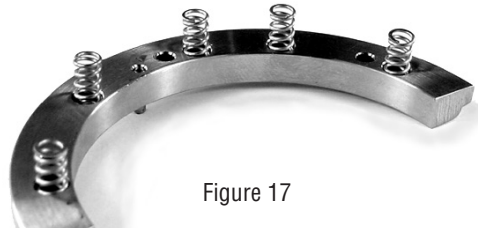

Figure 17
- 7.1 Place the coil springs in the spring holes. See Figure 17.